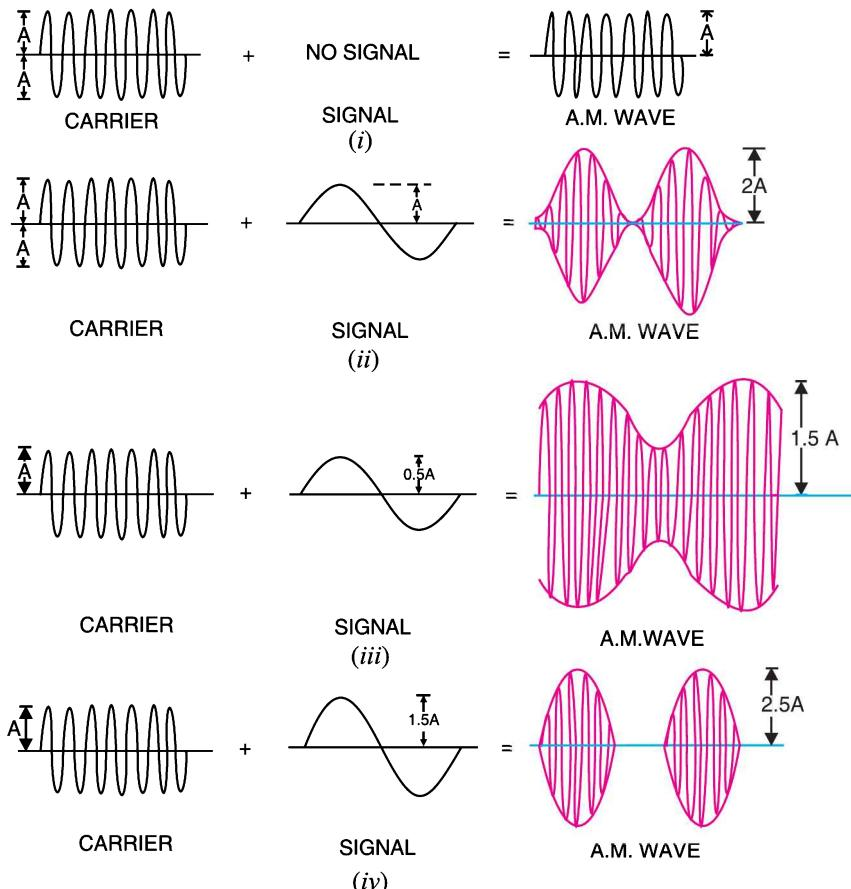

Fig. 16.3
The value of modulation factor depends upon the amplitudes of carrier and signal. Fig. 16.3 shows amplitude modulation for different values of modulation factor  $m$ .
- (i) When signal amplitude is zero, the carrier wave is not modulated as shown in Fig. 16.3 (i). The amplitude of carrier wave remains unchanged.
- (ii) When signal amplitude is equal to the carrier amplitude as shown in Fig. 16.3 (ii), the amplitude of carrier varies between  $2A$  and zero.
- (iii) When the signal amplitude is one-half the carrier amplitude as shown in Fig. 16.3 (iii), the amplitude of carrier wave varies between  $1.5 A$  and  $0.5 A$ .
- (iv) When the signal amplitude is 1.5 times the carrier amplitude as shown in Fig. 16.3 (iv), the maximum value of carrier wave becomes  $2.5 A$ .
**Importance of modulation factor.** Modulation factor is very important since it determines the strength and quality of the transmitted signal. In an AM wave, the signal is contained in the variations of the carrier amplitude. When the carrier is modulated to a small degree (i.e. small  $m$ ), the amount of carrier amplitude variation is small. Consequently, the audio signal being transmitted will not be very strong. The greater the degree of modulation (i.e.  $m$ ), the stronger and clearer will be the audio signal. It may be emphasised here that if the carrier is overmodulated (i.e.  $m > 1$ ), distortion will occur during reception. This condition is shown in Fig. 16.3 (iv). The AM waveform is clipped and the envelope is discontinuous. Therefore, degree of modulation should never exceed 100%.